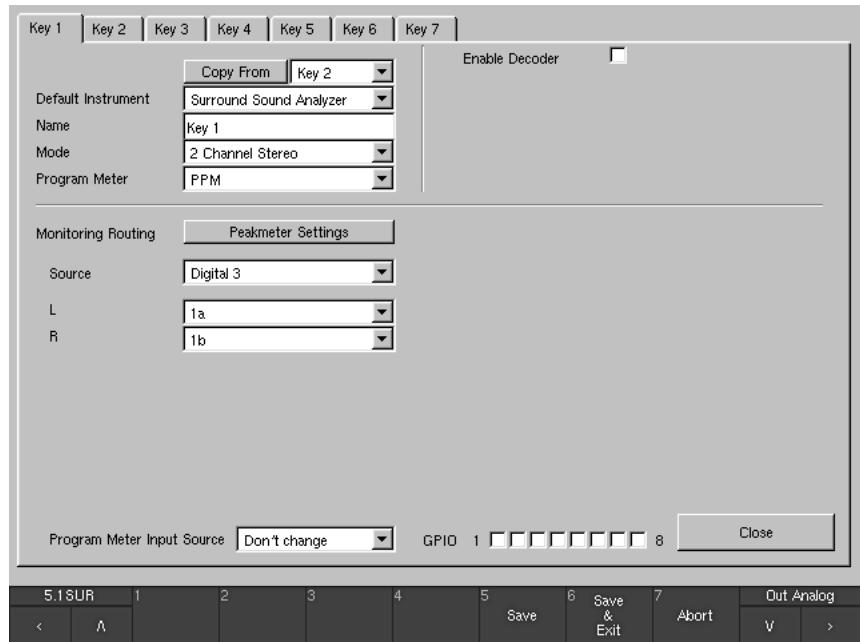

Fig. 6-18: Global Monitoring Input Routing menu page with „2 Channel Stereo“ mode selected
• **Copy From** (see Figs. 6-18 to 6-24)
• **Default Instrument** (see Figs. 6-18 to 6-24)
- **Name** (see Figs. 6-18 to 6-24)
- **Mode** (see Figs. 6-18 to 6-24)